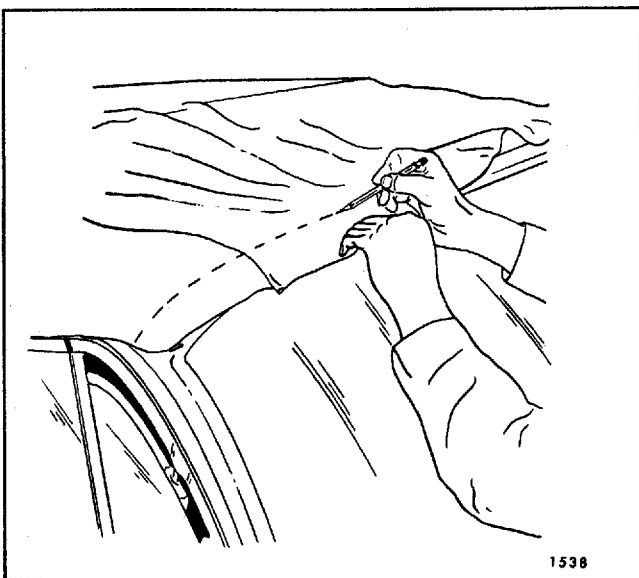

Fig. 6-28—Marking Top Material At Front Roof Rail
48. At front roof rail, pull top trim material forward to desired tension. While maintaining tension on top trim, place a pencil mark on outer surface of trim material along forward edge of front roof rail (Fig. 6-28).